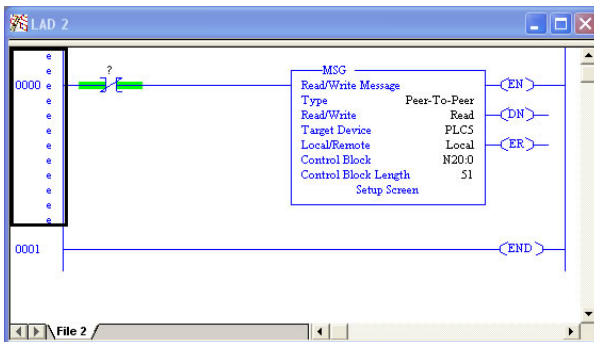

Figure 122: PLC Program after MSG Instruction Configuration
- f) Close the dialog box. At this point, the program should appear as shown in Figure 122.